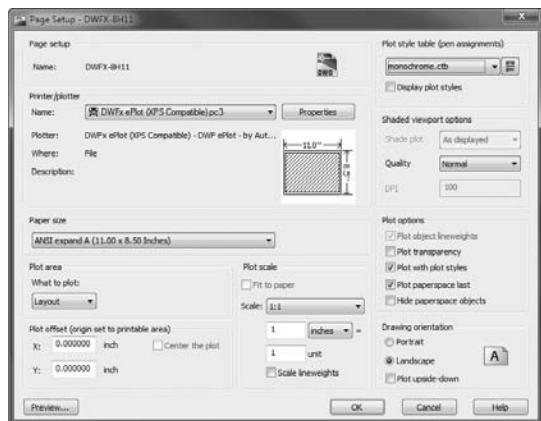

FIGURE 15.18 Modifying the DWFX-8H11 Page Setup to use the monochrome.ctb plot-style table
5. The Page Setup—DWFX-8H11 dialog box shown in Figure 15.18 opens after selecting Modify in the Page Setup Manager. This dialog box is nearly identical to the expanded Plot dialog box used by the PLOT command.
6. Change the Plot Style Table to monochrome.ctb, and click OK to exit the Page Setup dialog box (see Figure 15.18).